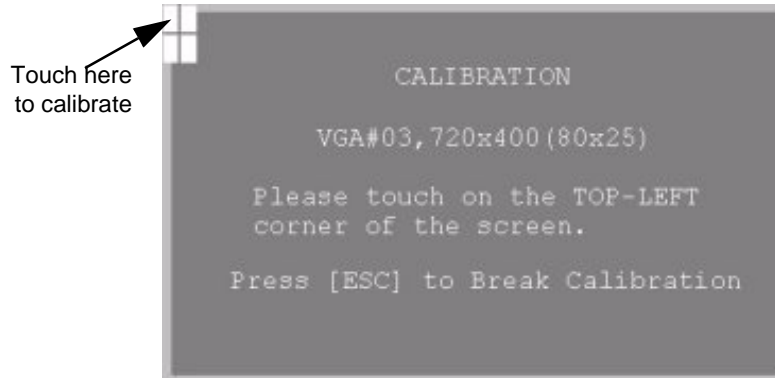

Figure 8 Calibration Intersections
6. Press the cross hair displayed in the upper left corner of the screen. See *Figure 8*.